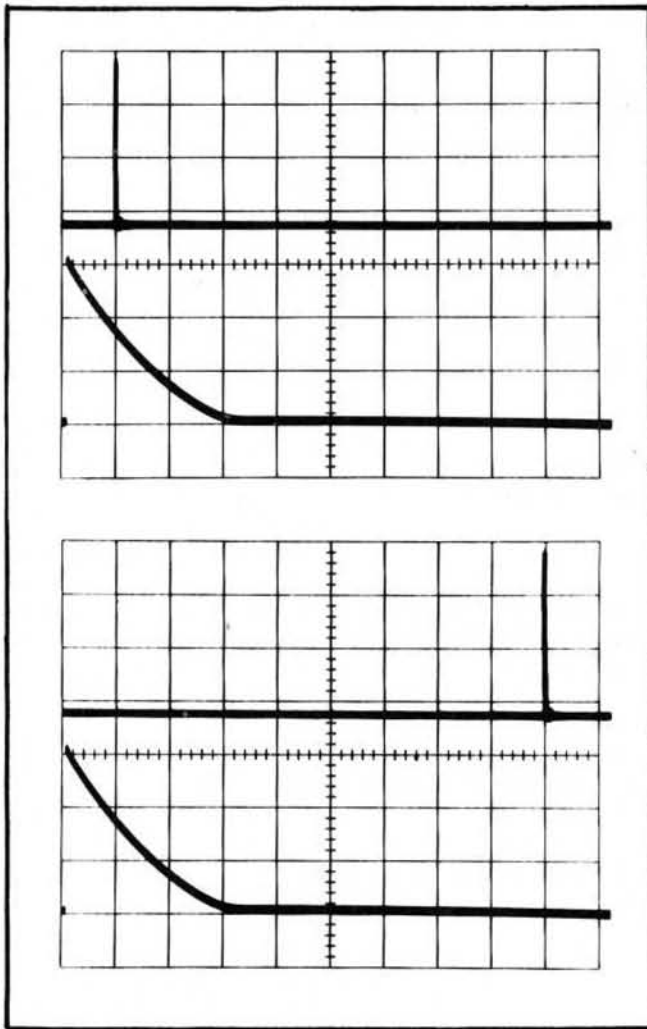

Fig. 5-10. Typical CRT display showing delay adjustments correctly set.
i. CHECK—The second marker begins at the start of the delayed (B) sweep (see Fig. 5-10).
l. CHECK—The tenth marker begins at the start of the delayed (B) sweep.